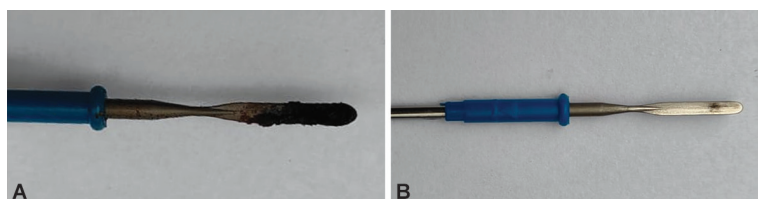

Fig. 1.16: Electrodes (A) Carbon deposition; (B) Cleaned electrode
Clean electrodes regularly: Any carbon deposition on electrodes hinder flow of current through the electrode. Hence, electrodes should be cleaned regularly during the surgery. Fig. 1.16 shows (A) electrode with carbon deposition and (B) cleaned electrode.